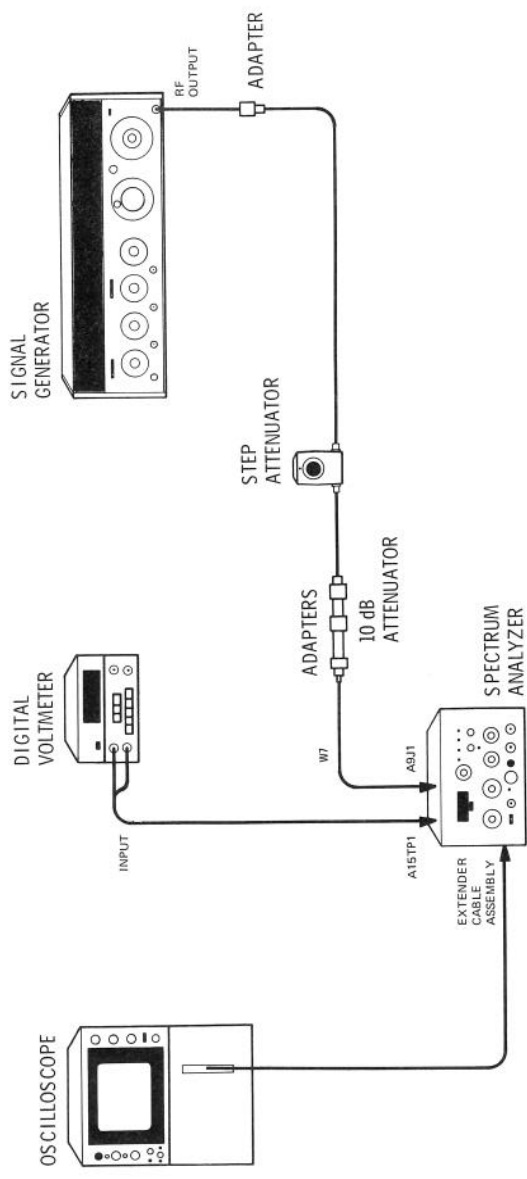

FIGURE 7-4. LOG AMPLIFIER ADJUSTMENT TEST SETUP (2142A & BELOW)
2. Connect equipment as shown in Figure 7-4. Set signal generator frequency to 301.4 MHz and output level to -13 dBm. Remove W7P1 from Second IF assembly A10J2. Connect signal generator output through step attenuator, 10 dB attenuator, and adapters to W7P1.